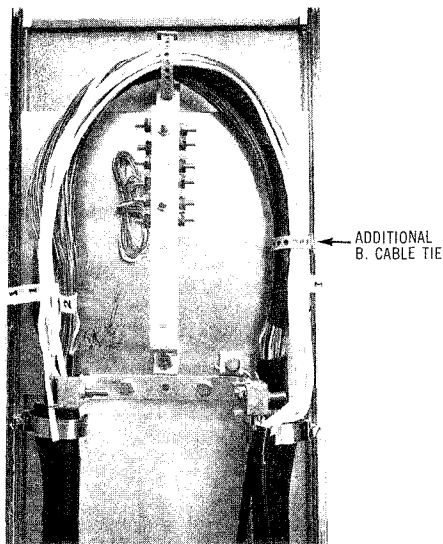

Fig. 3—Additional B. Cable Tie in place
**2.12** An additional B. Cable tie must be secured around the cable and service wire conductors on the same side of the telephone panel that the service wire shield has been terminated on and placed at the midway point between the existing B. Cable tie which is located at the top of the telephone panel and the connection point of the service wire as shown in Fig. 3.